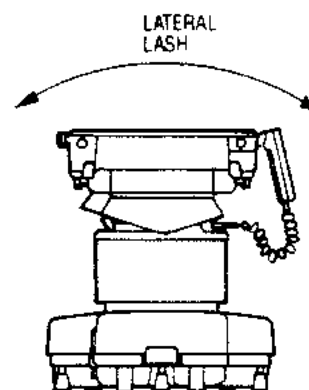

Figure 9-3. Lateral Lash
- b. **Lateral Lash* and Rigidity** (see Figure 9-3): Hang or apply 50 lbs (22.7 kg) of force on the left side rail at the seat/back joint. Measure the amount of vertical movement at the outboard end of the left back section when the 50-lb (22.7 kg) weight is moved to the right side. The measurement shall not exceed $3/32$ ".